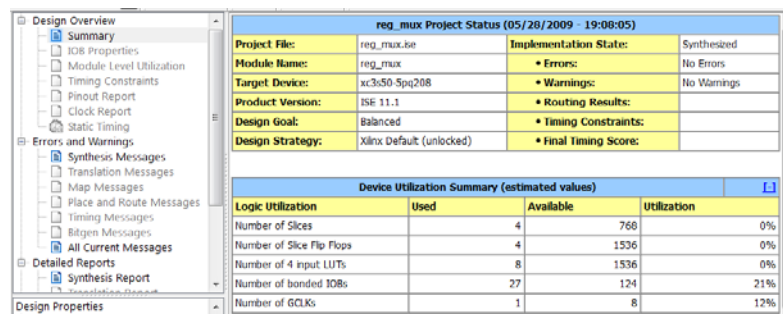

Figure 6
a) *Design parameters:* On the upper left corner of the Workspace window select **Design Overview > Summary**. The result is partially shown in figure 6. Observe in the Project Status table the name of the design, the device used, and the design goal (Balanced).
b) *Device utilization:* In the Device Utilization Summary table of figure 6 observe that 4 slices were used (out of 768 available in the chosen device), 4 flip-flops were inferred (as expected), and that the circuit requires 27 pins (expected: $4 \times 4 + 2 + 1$ inputs + 2×4 outputs = 27).